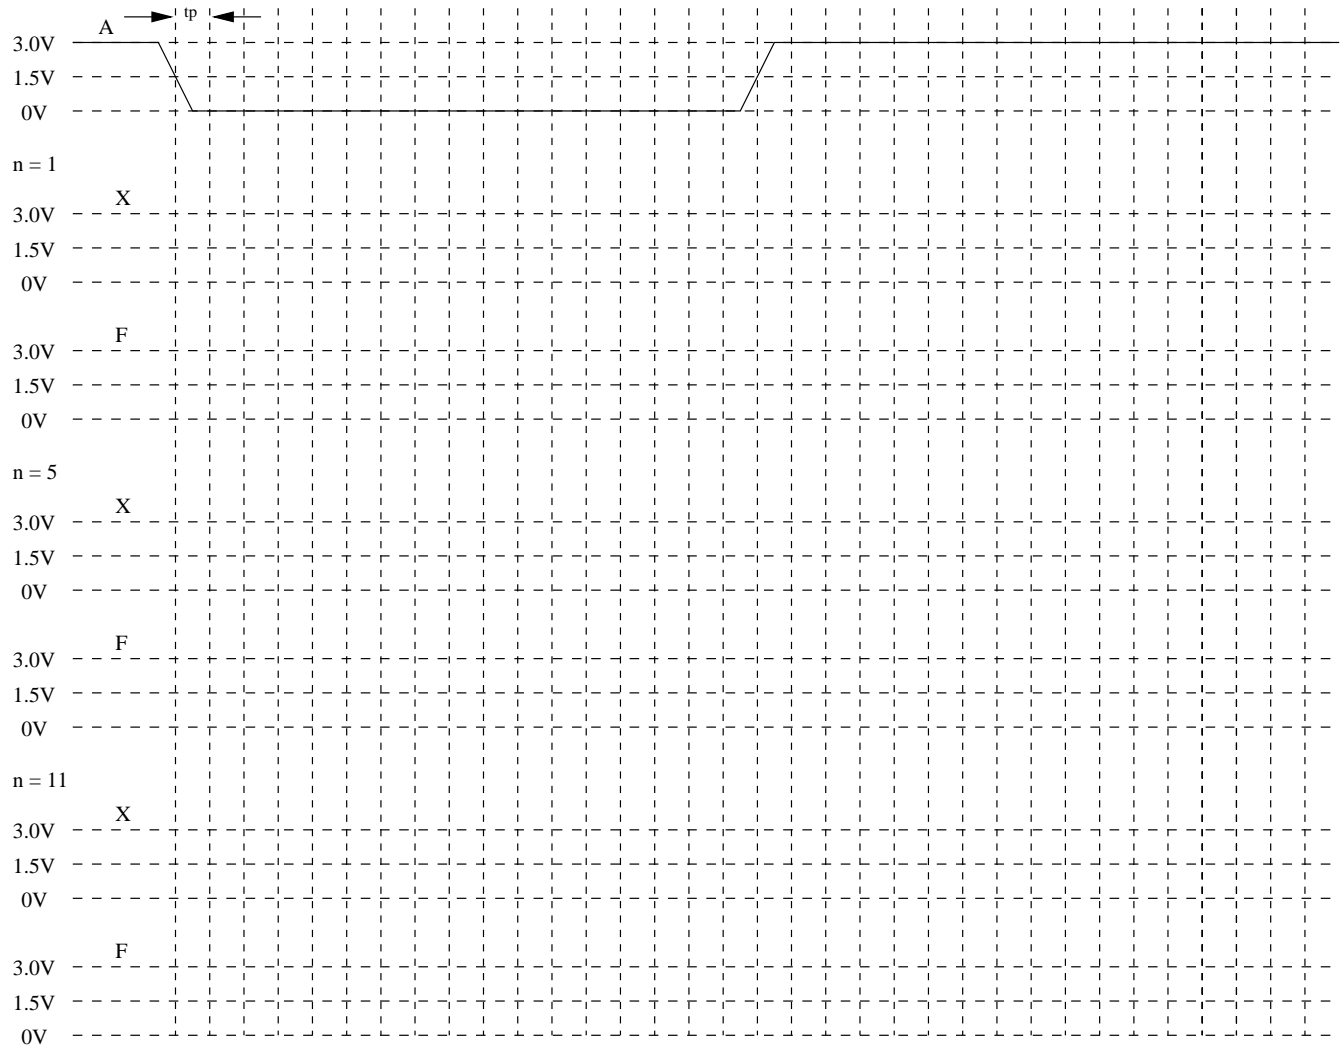

Figure 18: Voltage Level Timing Diagram for Delay Experiment
- (a) Complete the voltage level timing diagram in Figure 18 for $n = 1$, $n = 5$, and $n = 11$. You can use the 'X' line to calculate the signal after passing through the delay inverters, but before passing through the NAND gate. Assume all gates have the same propagation delay of $1.5V/t_p$. If you need more intermediate steps you can draw the voltage diagram on engineering paper. Turn in your diagram to the TA.